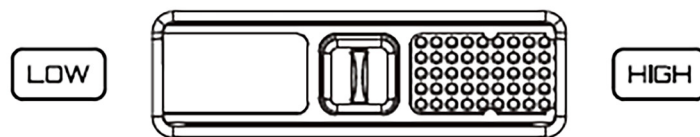

Fig. 9
- The zone shown is for humidity adjustment (Fig. 9). Users can slide the module left or right in accordance with the food situation. When the module locates in the "LOW" side, the humidity is low in crisper. When the module locates in the "HIGH" side, the humidity is high in crisper.